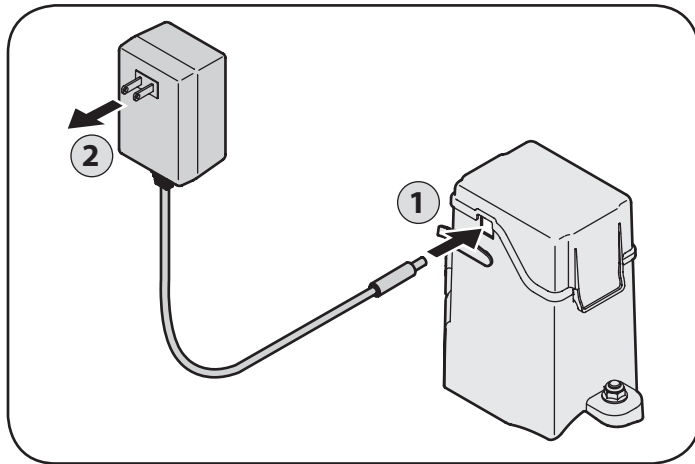

Figure 18
1. Unhinge the cover seal and plug the battery charger into the port on the side of the battery housing. See Figure 18.